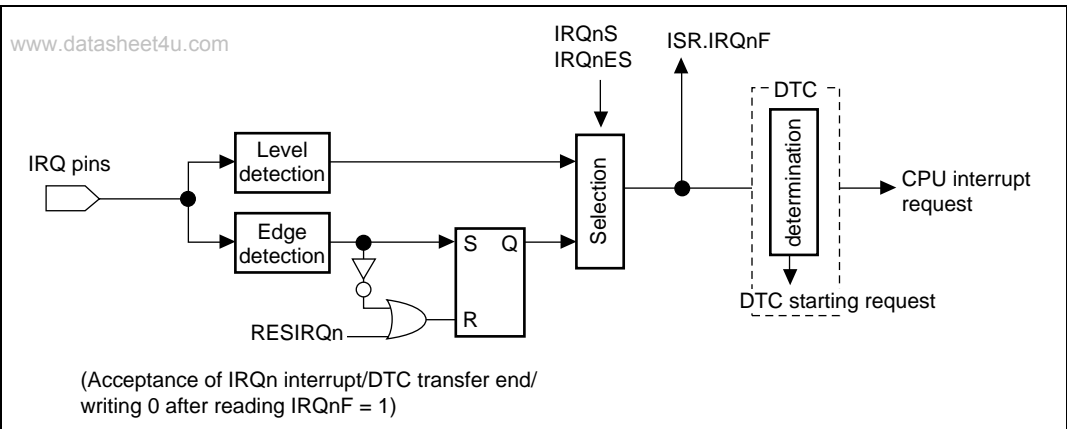

Figure 6.2 Block Diagram of IRQ3 to IRQ0 Interrupts Control
In IRQ interrupt exception processing, the interrupt mask bits (I3–I0) of the status register (SR) are set to the priority level value of the accepted IRQ interrupt. Figure 6.2 shows the block diagram of this IRQ3 to IRQ0 interrupts.